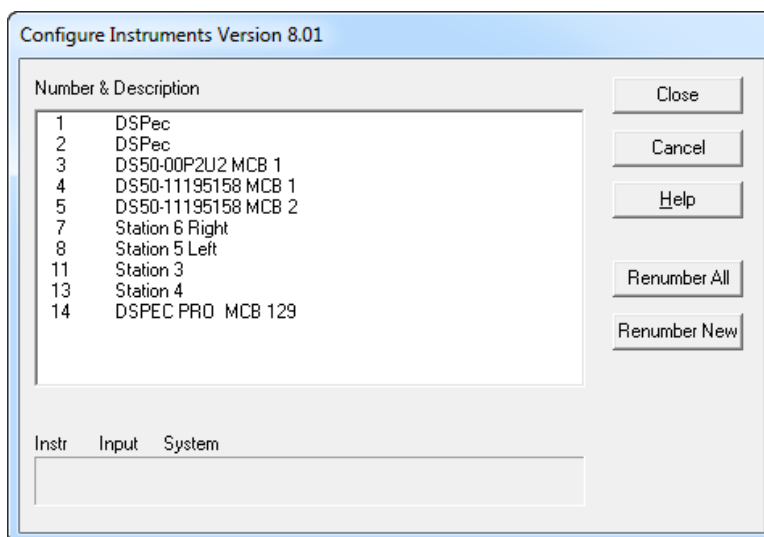

Figure 10. MCB Numbering and Descriptions.
- 3) To start the software, type `mcb` in the “*Search programs and files*” box on the Windows Start menu, then click the **MCB Configuration** search result; or open the Windows Start menu and click **MAESTRO**, then **MCB Configuration**. The MCB Configuration program will locate all of the powered-on ORTEC MCBs on the local computer and the network, and display the list of instruments found (the *Master Instrument List*; Fig. 10). If you wish, you may enter customized instrument ID numbers and descriptions (Section 2.2.4.2). When you close the dialog, any changes you have made to an ID number or description will be written back to the corresponding MCB.